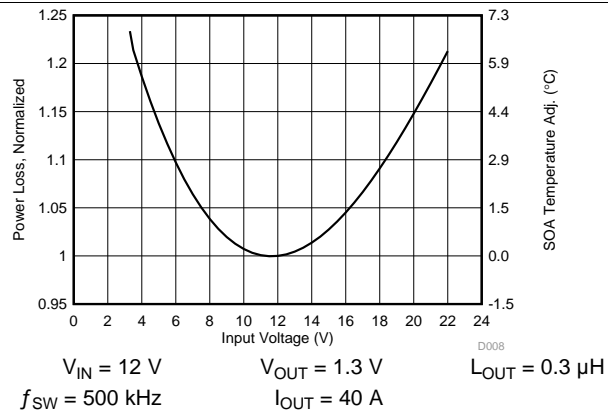

Figure 7. Normalized Power Loss vs Input Voltage
- Normalized Power Loss for input voltage  $\approx 1.07$  (Figure 7)
- SOA adjustment for input voltage  $\approx 2^\circ\text{C}$  (Figure 7)